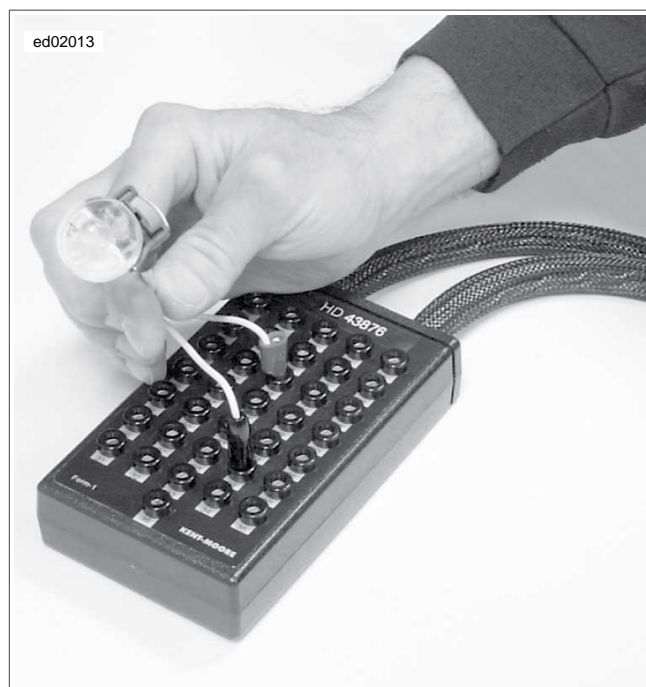

Figure 4-16. Ignition Coil Circuit Test
6. See Figure 4-16. Plug IGNITION COIL CIRCUIT TEST ADAPTER (Part No. HD-44687) and FUEL INJECTOR TEST LAMP (Part No. HD-34730-2C) into Breakout Box terminals "13" and "11". Start engine. If lamp flashes, no problem is found. Repeat for Breakout Box terminals "13" and "29".